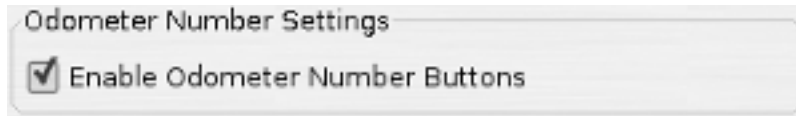

Figure 5.37. Odometer Number Settings
2. In the "Odometer Number Settings" section uncheck the "Enable Odometer Number Buttons" checkbox to disable the number buttons field entry see Figure 5.37, "Odometer Number Settings"